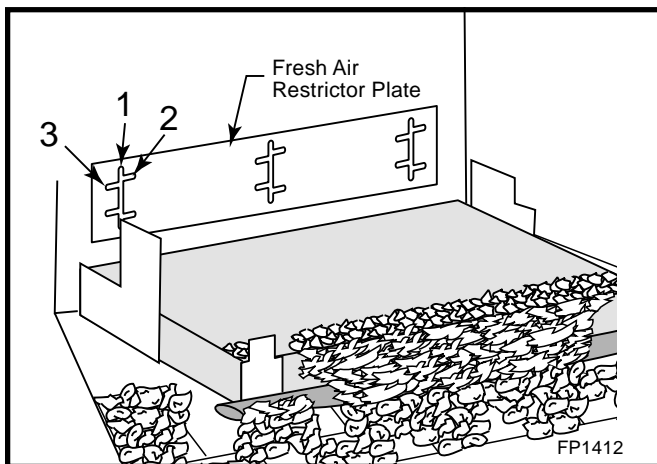

Fig. 38 Fresh air restrictor plate adjustment.
5. Adjust the fresh air restrictor plate setting. (Fig. 38) Simultaneously install the plate and the log bracket using the three (3) screws loosened or removed earlier. The adjustment is made by matching the proper setting on the plate with the three (3) holes on the firebox back.